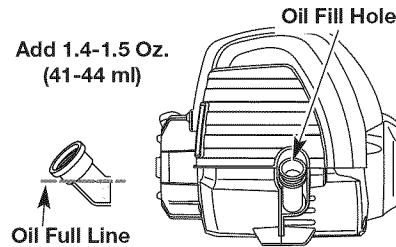

Fig. 30
- Check the oil level. Oil should be just to the bottom of the threads of the oil fill hole. (Fig. 30).
- If the level is low, add a small amount of oil to the oil fill hole and recheck (Fig. 30). Repeat this procedure until the oil level reaches the bottom of the threads in the oil fill hole.